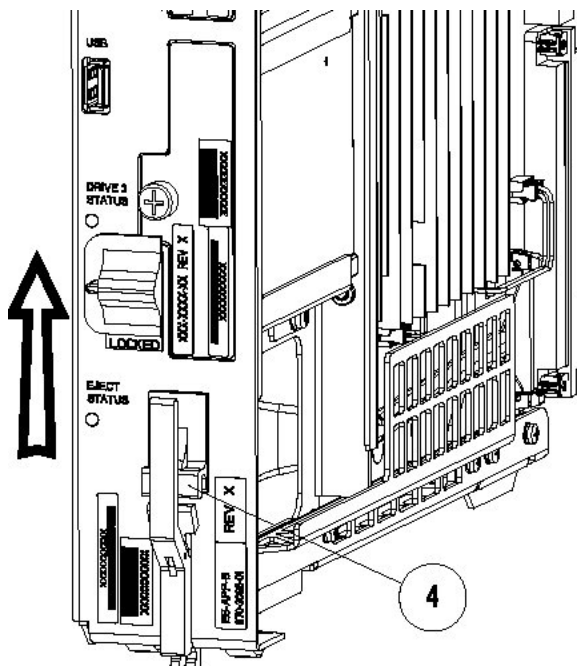

Figure 28: E5-APP-B Card Eject Hardware Switch, UNLOCKED
1. On the APP-B card, slide the Eject switch (4) up to the UNLOCKED position (see Figure 28: E5-APP-B Card Eject Hardware Switch, UNLOCKED).